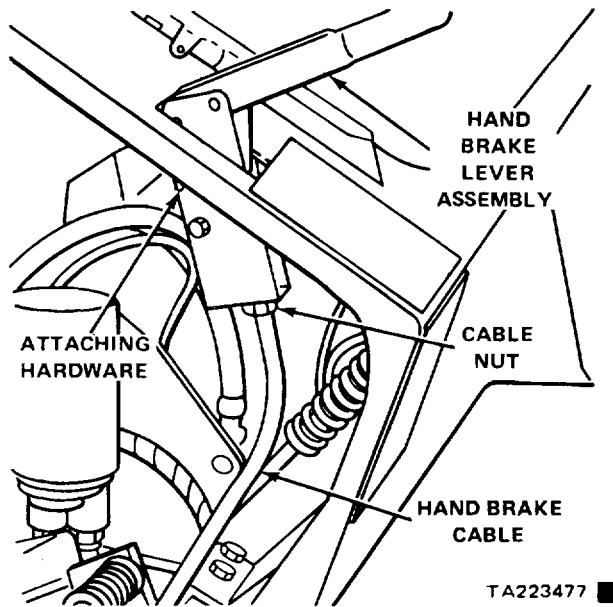

Figure 4-52. Hand Brake Lever, Removal and Installation
*a. Removal.* Refer to figure 4-52 and remove the complete hand brake lever assembly.